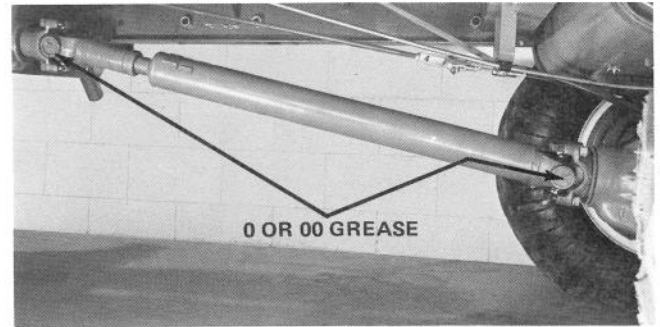

Figure 52
2. Use 0 or 00 Grease in the universal joints on each end of the drive shaft (Fig. 52).